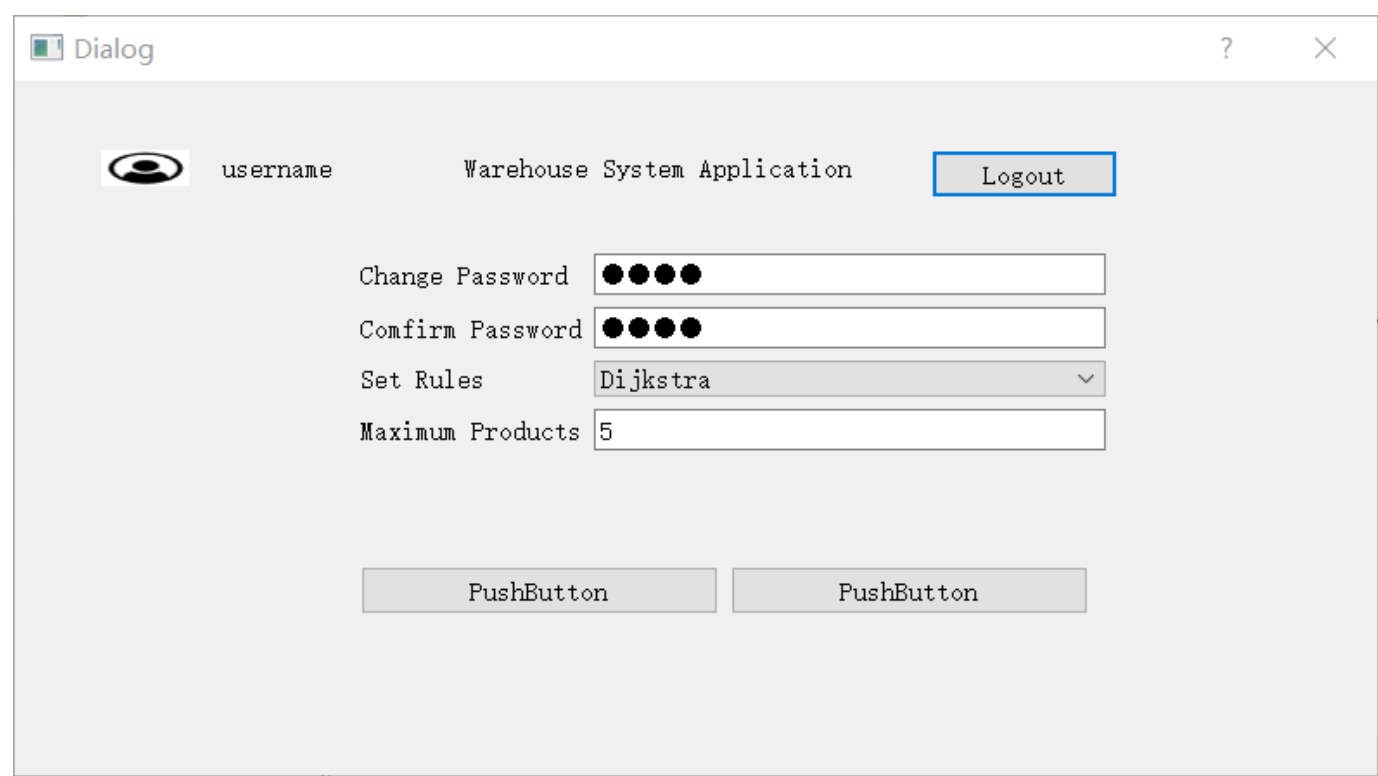

Figure 9 Personal setting
2. Scenario 2: Workers have a limitation of products each time. From the figure 9, you can see that in the personal setting, the worker can set the maximum number of products to deliver.